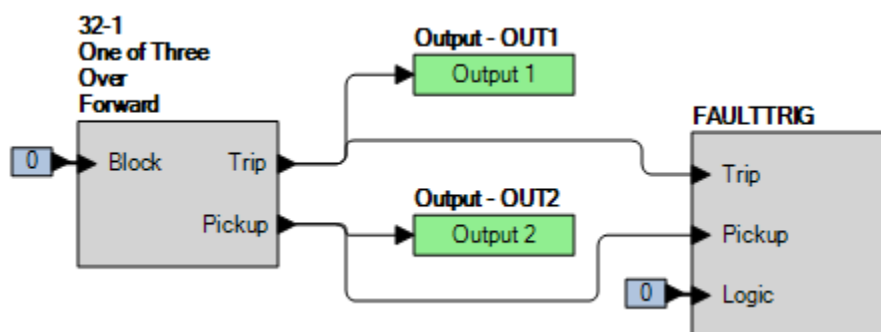

Figure 66-1. BESTlogicPlus Settings
Step 2: Use BESTCOMSPlus to configure the BESTlogicPlus Programmable Logic shown in Figure 66-1.